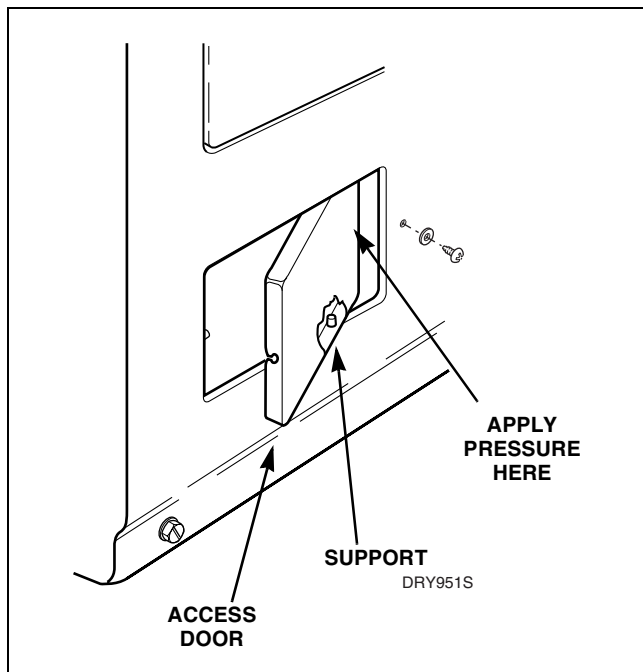
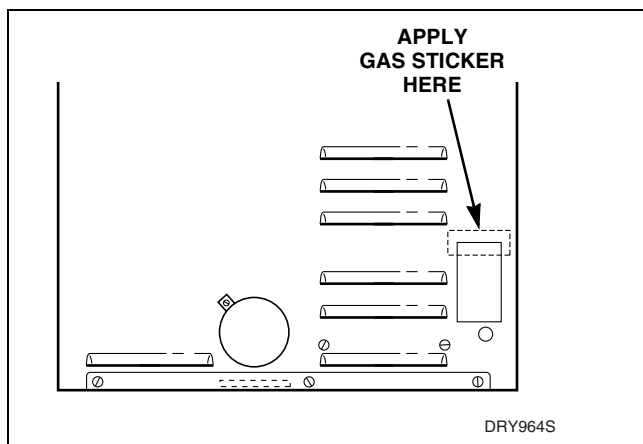

Figure 42
Figure 44
- Remove Phillips head screw and washer holding access door to the front panel. Refer to *Figure 42*.
- Apply thumb pressure to the right edge of the door. When the door opens, move the door to the left to disengage from the door supports. Refer to *Figure 42*.
- Remove Phillips head screw (if present), then apply thumb pressure to the right side of access door. Refer to *Figure 42*. When door opens, move door to the left to disengage from door supports.
- Sign and date each of the two No. 60518 L.P. Gas Stickers. Install one of the No. 60518 L.P. Gas Stickers over the top three lines of the old sticker on rear of cabinet. Refer to *Figure 44*. Then place the second sticker over the top three lines of the old sticker located on backside of access door. Refer to *Figure 42*.
- Sign and date each of the two No. 60521 Natural Gas Stickers. Install one of the No. 60519 Natural Gas Stickers over the top three lines of the old sticker on rear of cabinet. Refer to *Figure 44*. Then place the second sticker over the top three lines of the old sticker located on backside of access door. Refer to *Figure 42*.